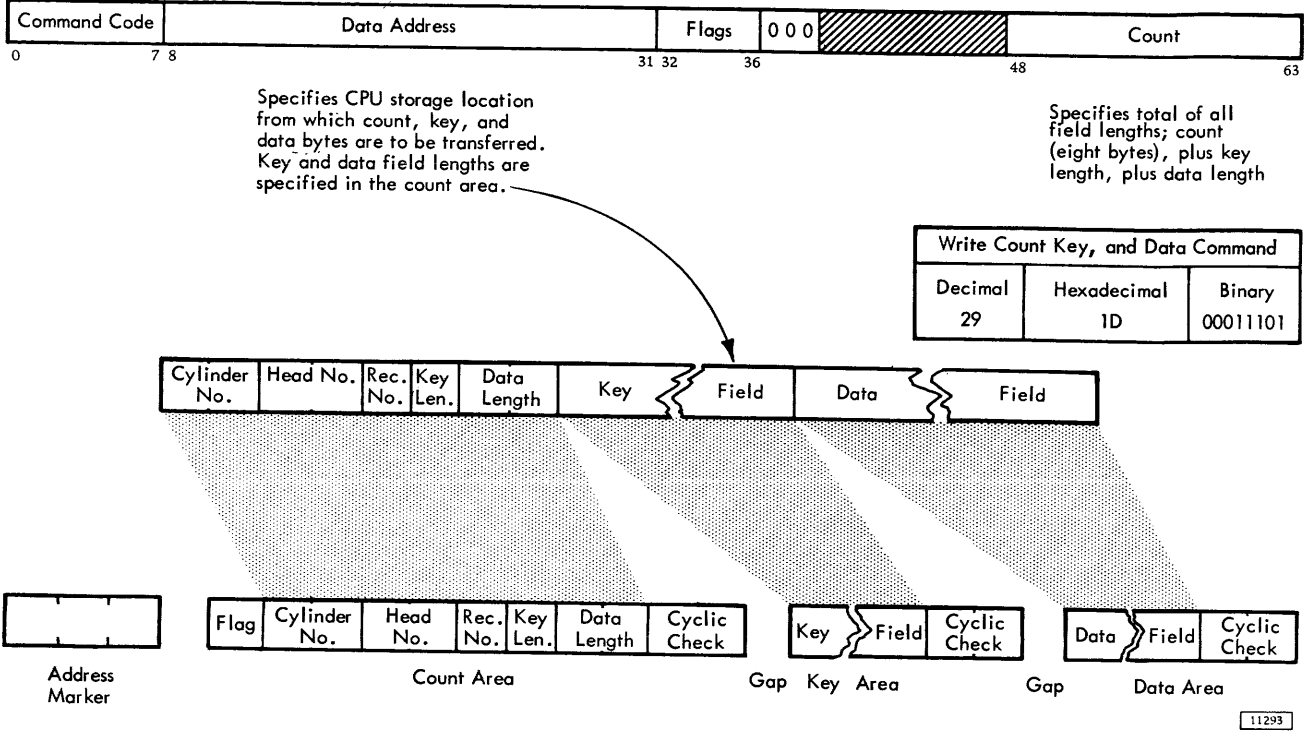

Figure 11. Write Count, Key and Data
**Write Count, Key, and Data (Figure 11).** This command is the same as the Write R0 except that the 2841 causes an Address Marker to be written on the track immediately before the Count.